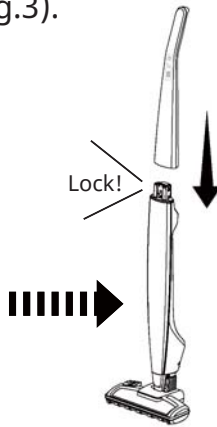

Fig.2
- Insert the handle into the top of the main body as illustrated and lock into place (Fig.2).